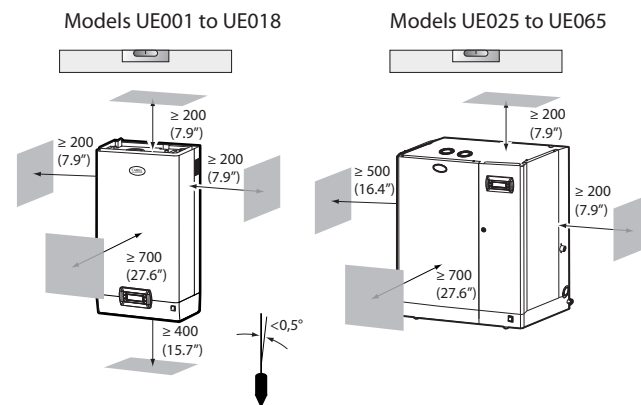

Fig. 1.b
- make sure the humidifier is level, allowing the minimum clearances (see Fig. 1.b) for maintenance operations.
Fit the humidifier on the wall using the support bracket and the screw kit supplied (for the dimensions in mm/inches see Fig. 1.d).